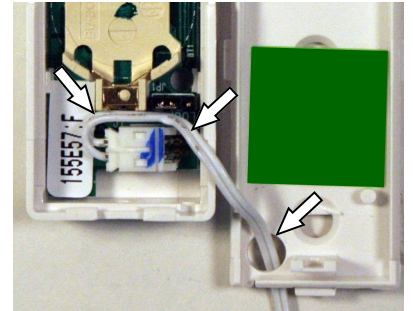

Fig. 4. Curl plug wires inside case to avoid pinching wires. Use hole in Mounting Plate. The ID Code on the sticker is "155E57:F".
board. Curl wires inside case to avoid pinching wires (see Fig. 4); connect two wires to an external sensor having normally-closed contacts (or a normally-closed loop). Set Jumper J1 to "LOOP".
- (b) all 7 characters on the sticker. Using the Fig. 4 example sticker, enter "155E57F" (no need to enter the colon character);